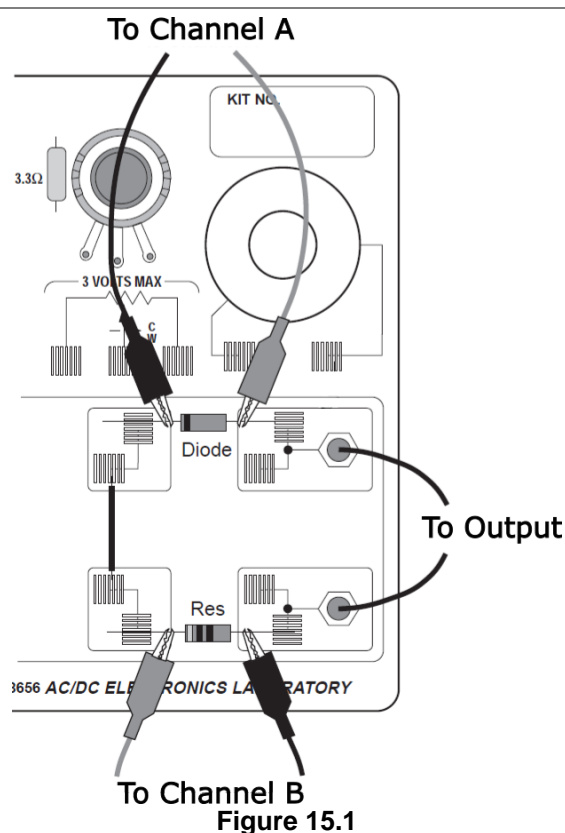

Figure 15.1
4. Put alligator clips on the banana plugs of each Voltage Sensor. Connect the alligator clips on the Channel A Voltage Sensor to the wires at both ends of the diode, as shown in Figure 15.1.
5. Connect the alligator clips on the Channel B Voltage Sensor to the wires at both ends of the 1 k Ω resistor, as shown in Figure 15.1.